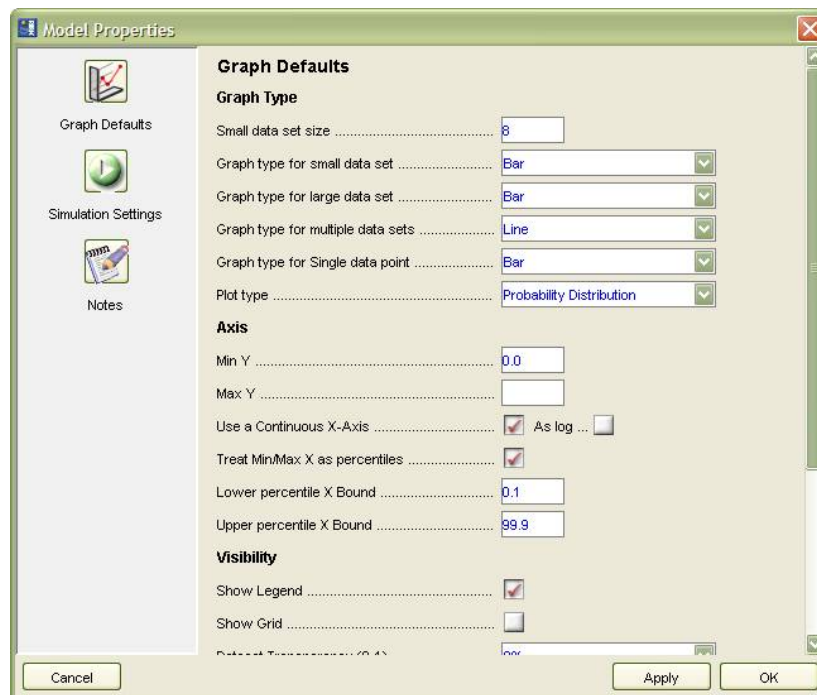

Figure 7 Properties for *Hypothesis Testing* model
4. Your model properties dialog should look like the one shown in Figure 7 below.